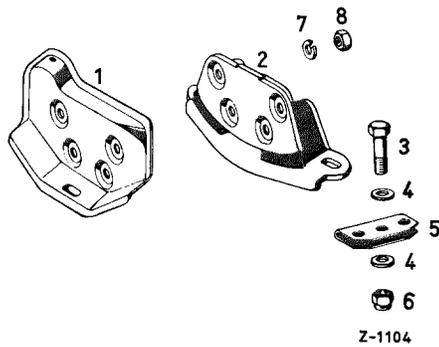

Fig. 24-1/3
- 1 washer (4) between screw and chassis base panel
- 1 washer (5) between chassis base panel and rubber mounting
- 1 washer (4) between rubber mounting and hexagon nut.
On Model 190 SL 3 washers are used on either side, but on this model washer (5) is 10 mm thick instead of 3 mm (see Fig. 24-1/2).
Models 180 b, 180 Db, 190 D, 190 Db have a perforated insert (5) as a standard part (Fig. 24-1/3).
Model 180 D has three washers (5) on either side (see Fig. 24-1/2).
Model 180 a has only two washers with or without perforated inserts on either side, unless on export cars a reinforced rubber mounting with additional supporting plate has been installed **without** perforated insert. In this case a third washer, i.e. a center washer (5) must be installed between chassis base panel and rubber mounting. The washer (5) is not required if a perforated insert is installed (see Fig. 24-1/2).